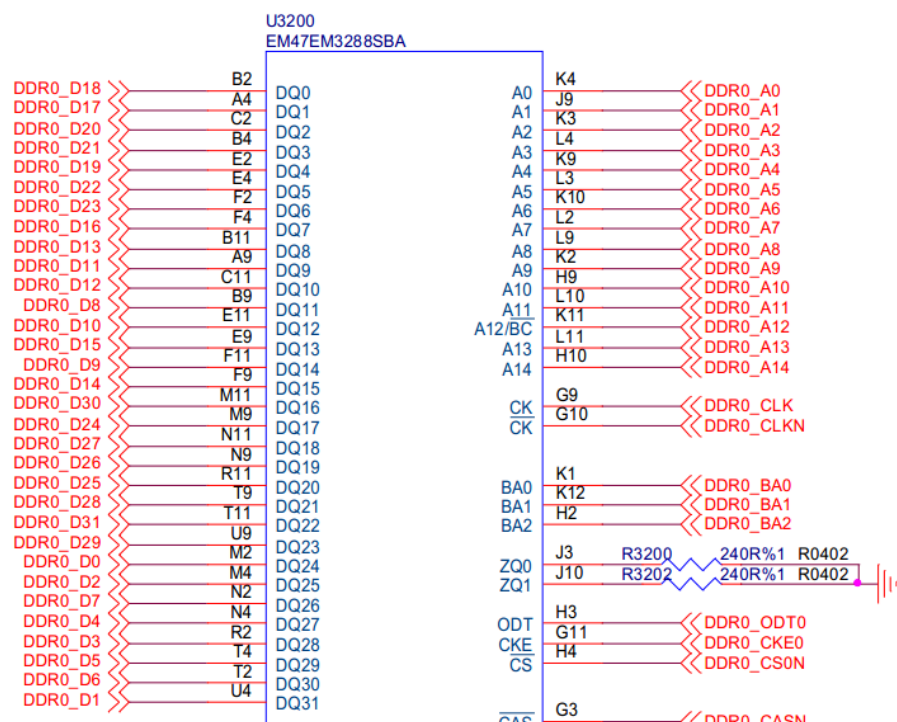

Figure 8-2
- If using DDR3, all date lines (GROUP A, B, C, D) can be exchanged in group (for example, exchange the order in DDR0_D8~D15), or among groups (for example, exchange GROUP A to GROUP D). Exchanges all depend on practical demands, shown as Figure 8-2.